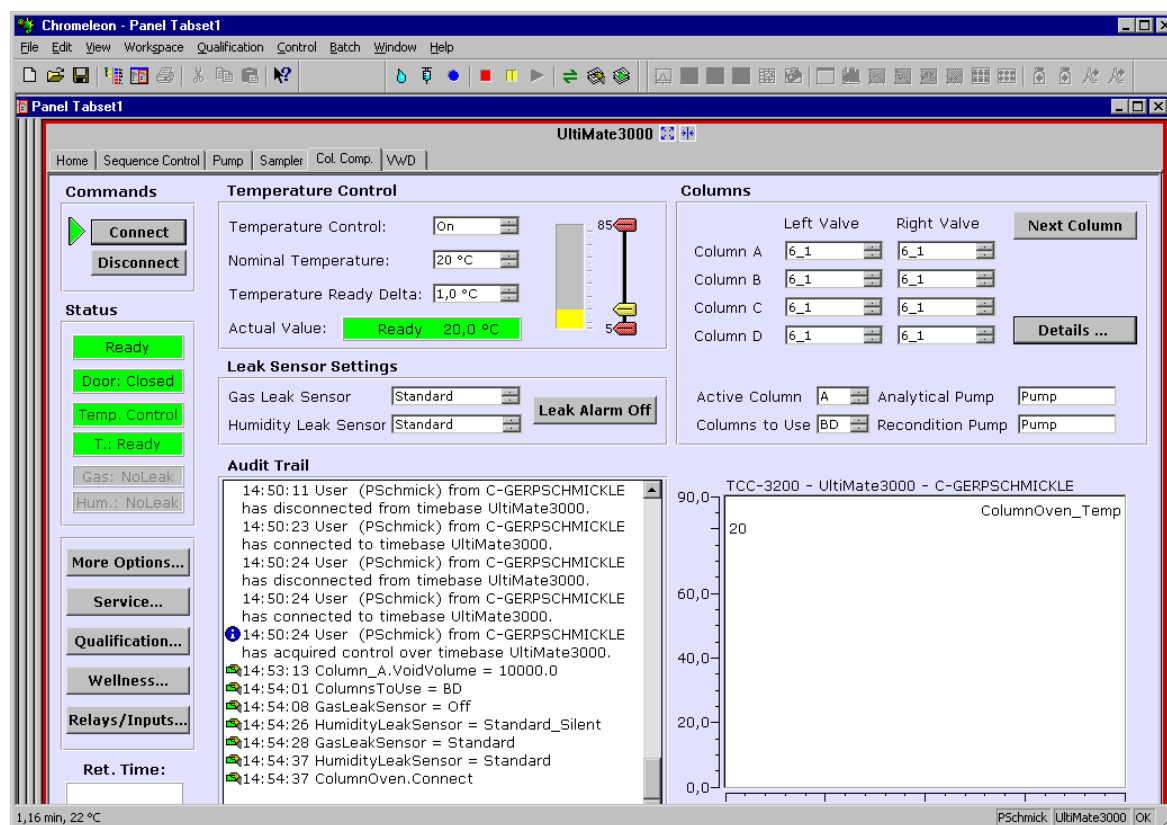

Fig. 33: TCC Control Panel on the Panel Tabset
Chromeleon creates centralized control panels, called panel tabsets (→ Fig. 33, page 56), for all timebases available on the Chromeleon server. A panel tabset provides control panels for the individual instruments in a timebase and, in addition, one or more panels for performing system-wide functions, for example, creating and running sequences. For more information about panel tabsets, see the Chromeleon Help.
2. On the **Panel Tabset** for your timebase, click the **Col. Comp.** page (→ Fig. 33).